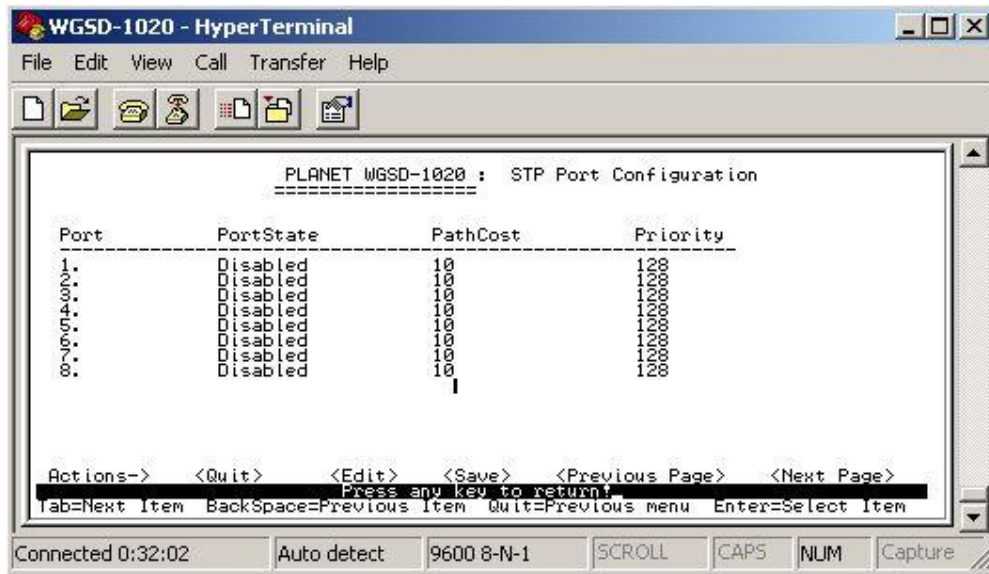

Figure 4-54 STP Port configuration screen
2. After setup completed, press” **Ctrl-A**” to “**Action menu**” and choose “**save**” to save the current configuration. The screen in Figure 4-54 appears.